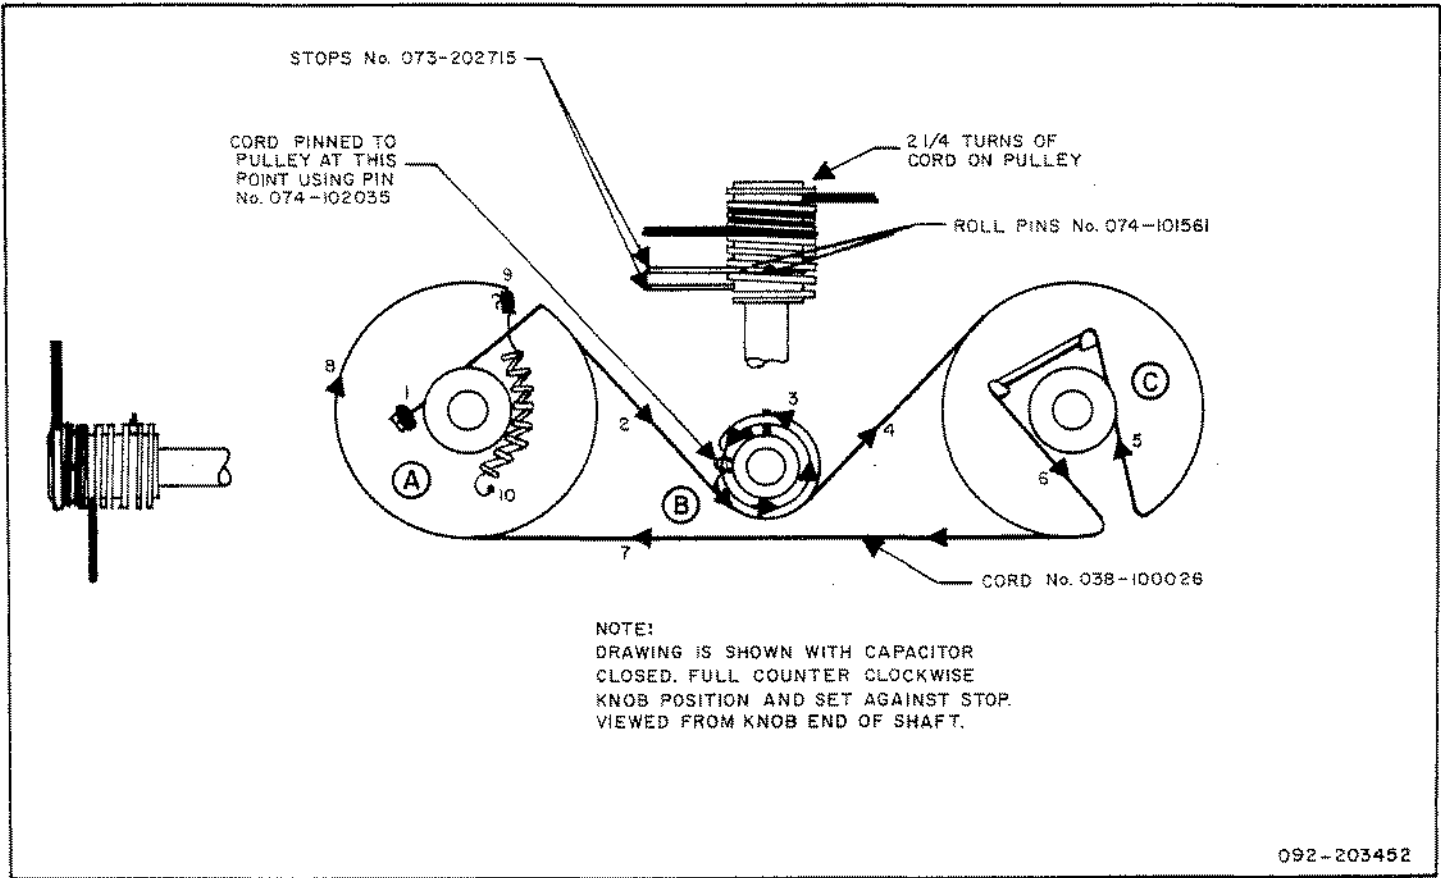

Figure 7. Tuning Dial Cord Stringing Diagram.
D. Re-string the dial cord as follows: (Figure 7):
1. Attach the end of the cord to the tab (1) and pull the cord up and around wheel A. Proceed clockwise down wheel A down behind wheel B (2).
2. Complete 2-1/4 turns of cord on wheel B (3) and proceed up and over wheel C (4). Continue around wheel C up and around the tabs (5 and 6).